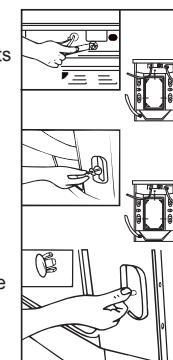

Fig. 2
- Dismantle the packing bolts as shown in Fig. 2. The packing bolts are designed for clamping anti-vibration components inside of the washing machine during the transportation process.